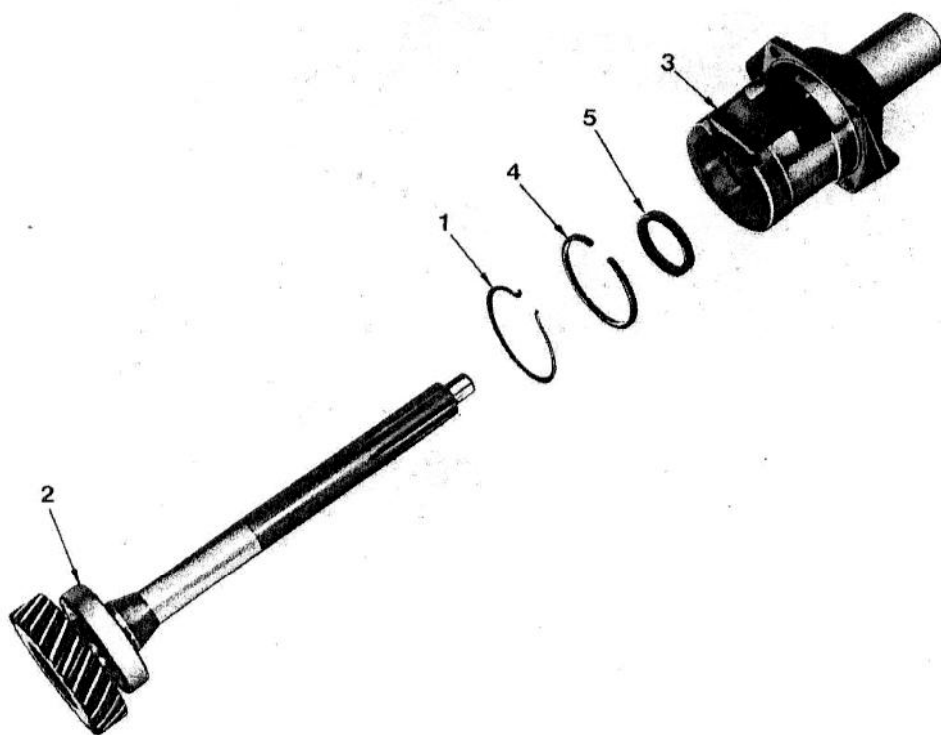
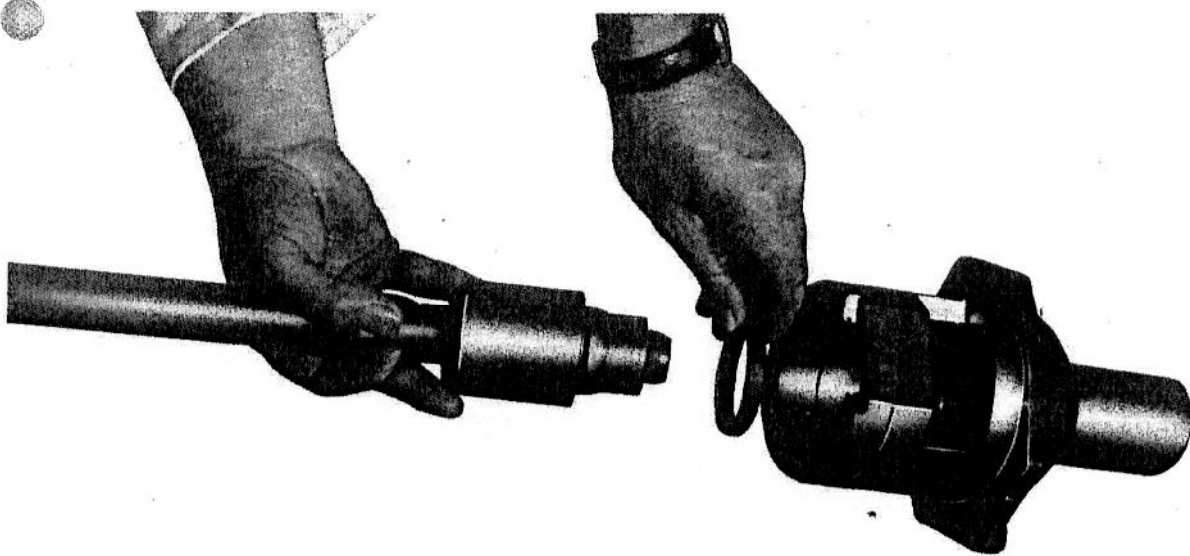

FIG. 4
FIG. 5
2. (Fig. 4) Remove the snap ring (1) that secures the bearing and drive shaft assembly (2) to the retainer (3).
4. Extract the snap ring (4).
5. Carefully remove the oil seal (5) from the retainer.
6. Reassembly is a reversal of the above procedure. Using tool MF 179 and handle 550 to replace the oil seal. (Fig. 5).